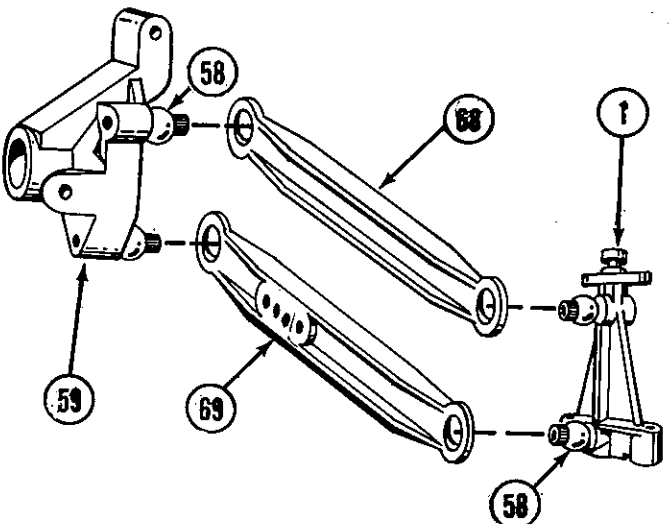

FIG. 29
29. Snap one end of upper trailing link (68) onto upper 1/4" ball (58) in side bulkhead (1) so edge without rib is on the lower inside. Fig. 29.
30. Snap free end of upper trailing link (68) onto upper 1/4" ball (58) in hub carrier (59). Fig. 29.
31. Line up lower trailing link (69) so rib is on the bottom and shock mount holes are towards the rear. Snap forward end onto lower 1/4" ball (58) in side bulkhead (1) and rear end onto lower 1/4" ball (58) in hub carrier (59). Fig. 29.